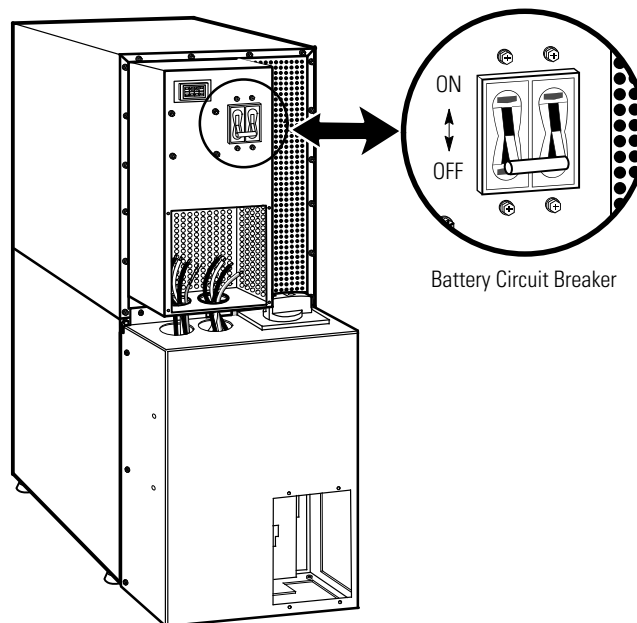

Figure 18. UPS with MBM Rear View
5. Verify that the UPS battery circuit breaker is in the OFF position (see Figure 18).